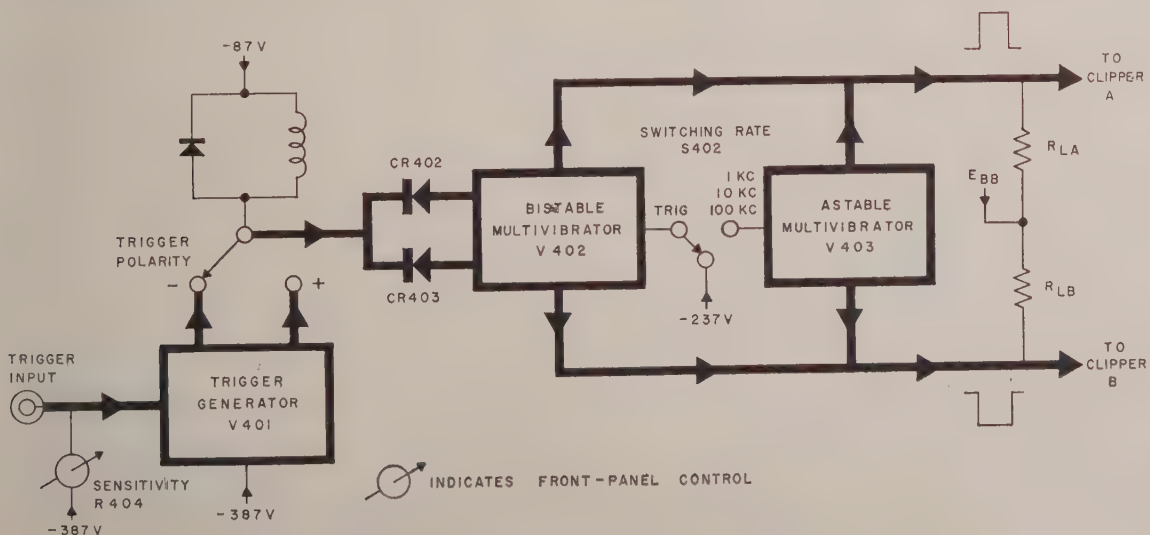

FIGURE 3-2. GATING WAVEFORM CIRCUITS
6. Gating Waveform Circuits (See Figure 3-2)